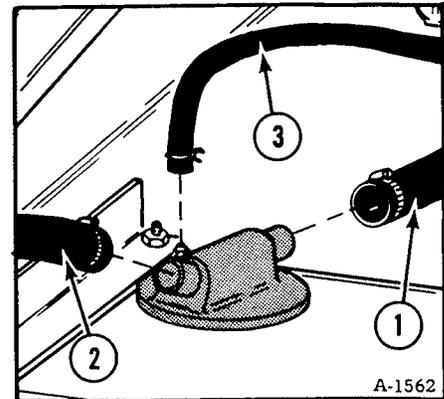

Fig. 1-48 Removing 100 Mesh Filter
- (1) Clean the area around the filter fastening plate.
- (2) Remove the hydraulic pump inlet hose (Fig. 1-48, Item 1), the oil cooler return hose (Fig. 1-48, Item 2) and breather hose (Fig. 1-48, Item 3) from the hydraulic reservoir.
- (3) Remove four bolts and lift the filter body from the reservoir (Fig. 1-48, Item 4).
- (4) Clean mesh with solvent and compressed air. Be careful not to damage mesh.